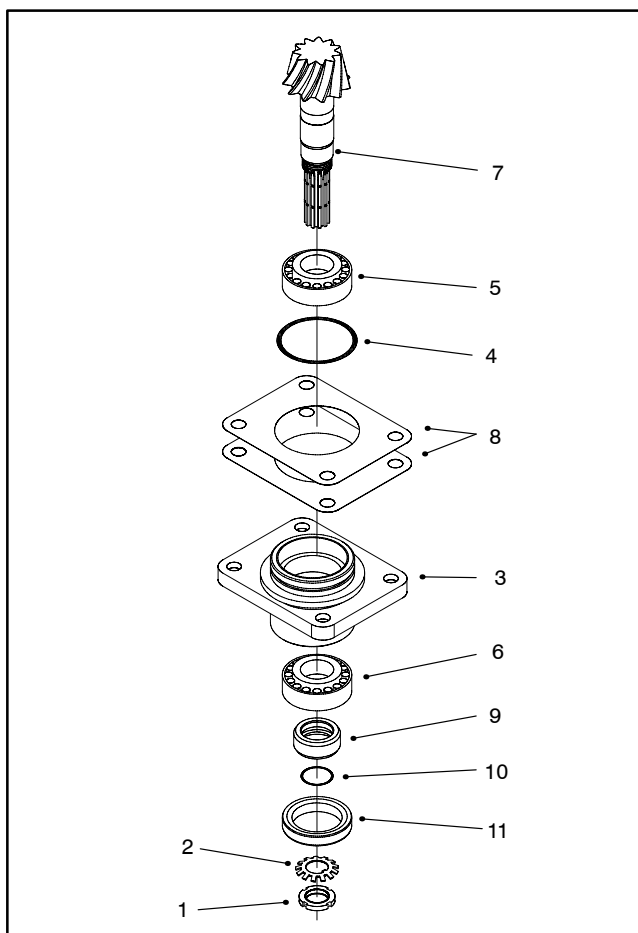

Figure 18
2. Release the stake washer and remove the locknut. Remove and discard the stake washer (Fig. 18).